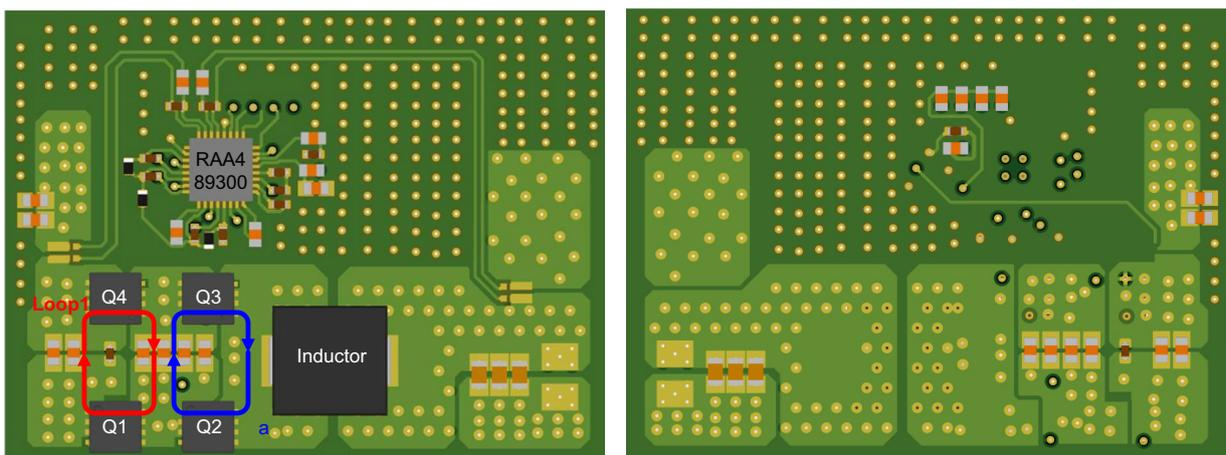

Figure 33. Top Side (left) and Bottom Side (right) of the Example Layout
The two main commutation loops that must be minimized are highlighted in the example power stage layout in Figure 33.
- Loop 1 encompasses the input capacitors, the highest side MOSFET (Q4), the flying capacitor, and the lowest side MOSFET (Q1). The impedance on this loop can be minimized by arranging the components as seen in Figure 33. The impedance can further be lowered by placing low ESR and ESL capacitors close to the drain terminal of Q4 and the source terminal of Q1.
- Loop 2 consists of the flying capacitors, Q3 MOSFET, and Q2 MOSFET. This loop can be minimized when arranged as shown in Figure 33. Generous use of stitching vias is recommended along with power planes when connecting the flying capacitors to the MOSFETs.